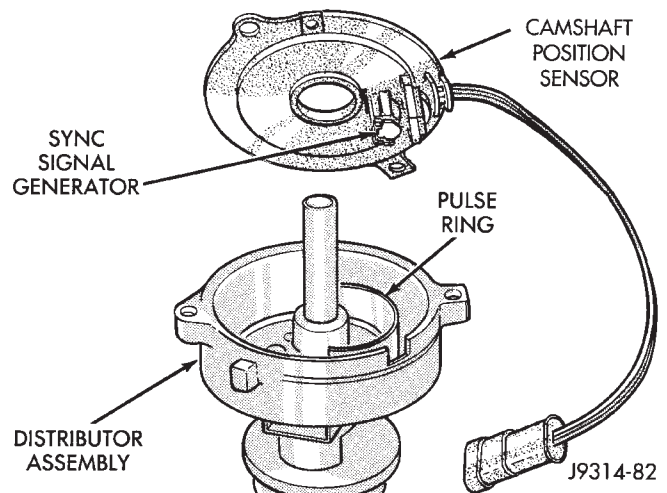

Fig. 5 Camshaft Position Sensor—5.2L Engine
(5) Remove distributor rotor from distributor shaft.
(6) Lift the camshaft position sensor assembly from the distributor housing (Fig. 5).